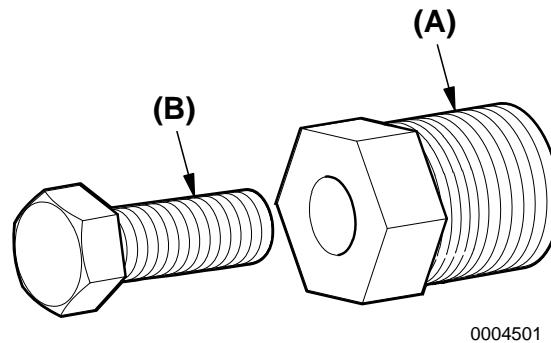

Figure 16
2. Install puller (Figure 16, (A)) in the impeller.
3. Turn the jack screw (**Figure 16, (B)**) clockwise to remove the impeller from the pump body.